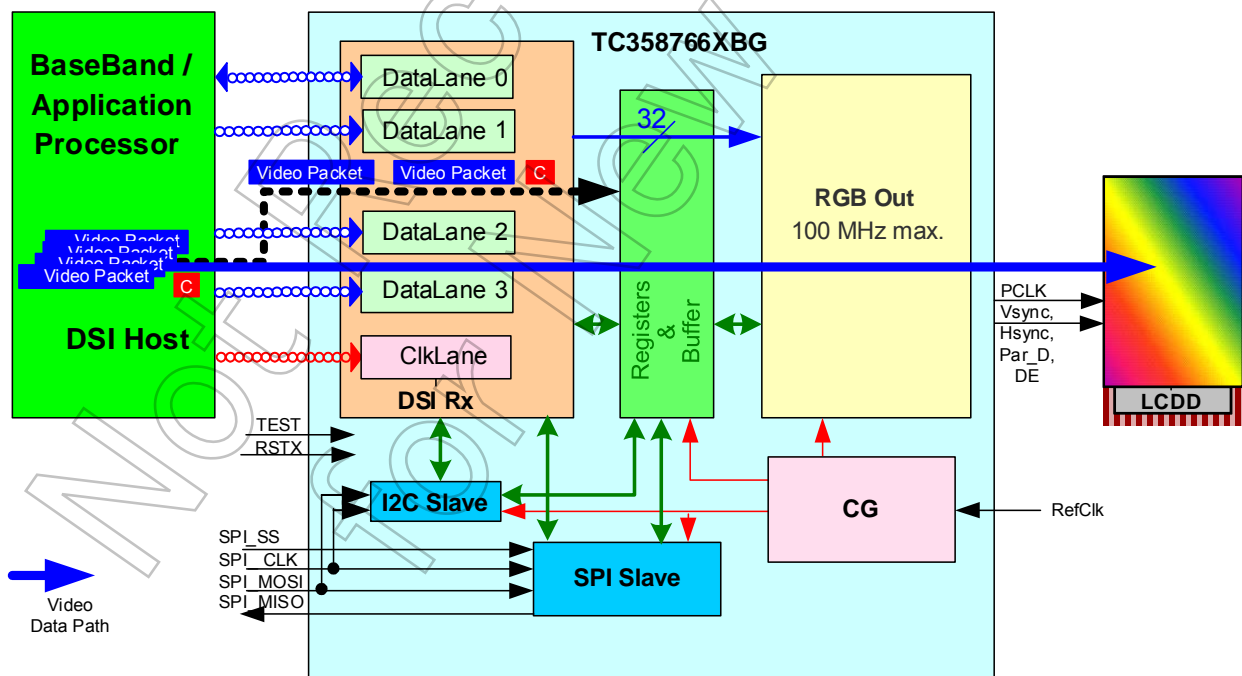

Figure 1.6 System Overview with TC358766XBG in MODE_S2P Configuration
- **Mode_S2P:** A system configuration where TC358766XBG may typically be used is shown in Figure 1.6. In this mode, DisplayPort™ output is not used and the chip rather behaves as a DSI to RGB convertor. In this system, TC358766XBG could be connected to a single display. In this configuration, the TC358766XBG can support displays with resolution up to WXGA (1280x800 or 1366x768). Max output PCLK is 80 MHz. Video stream source is from DSI Host.